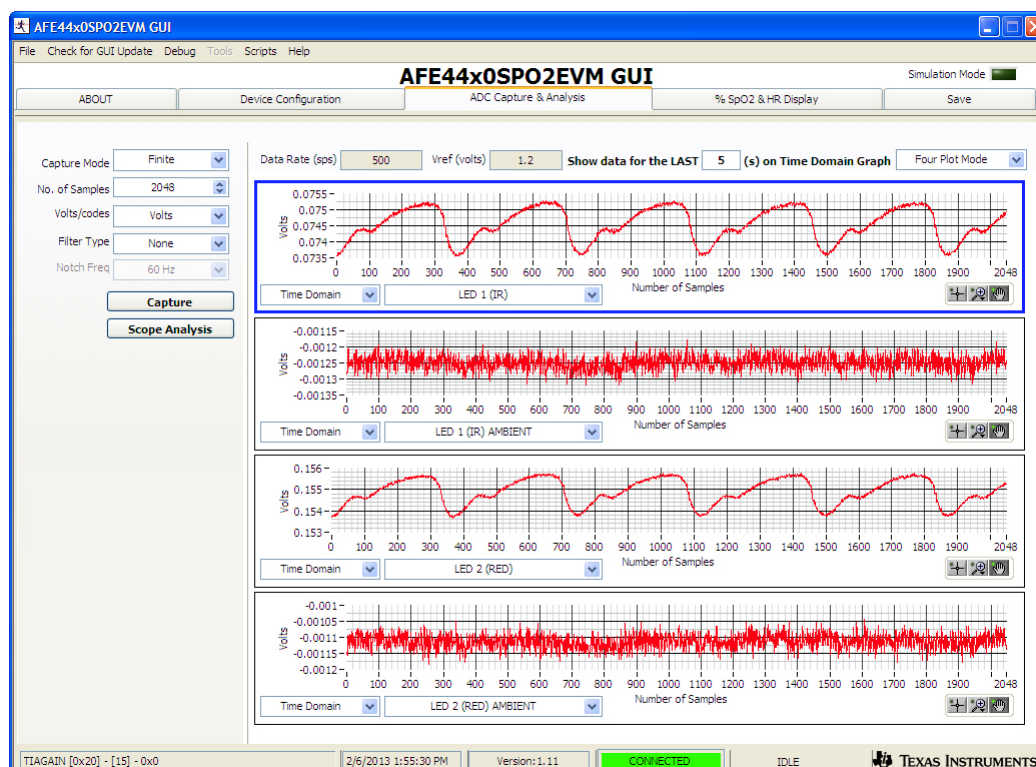

Figure 38. Sample Test Data
- Select the first waveform to LED1 (IR)
- Select the second waveform to LED1 (IR) AMBIENT
- Figure 38 shows a sample data capture